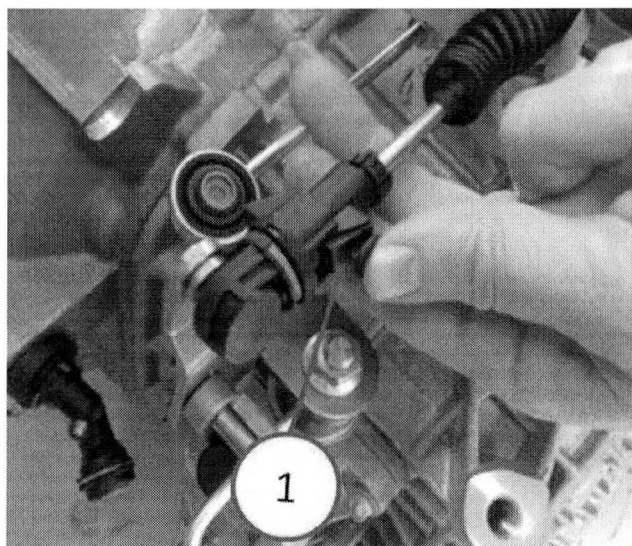

Fig. 11 Shift Cable
24. If the adjustor stays in the unlatched position, depress the button as in the (Fig. 11).